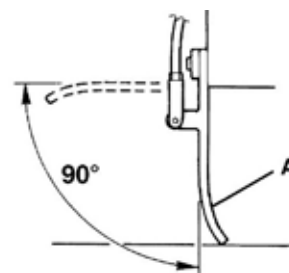

Figure15
5) Press the front skirt lifting pedal (3) and check that the front skirt (A, Fig. 15) turns upward for about 90° (as shown in the figure); then release the pedal and check that the skirt does not remain in an intermediate position but returns to its initial position. If necessary, for the front skirt control cable adjustment or replacement.